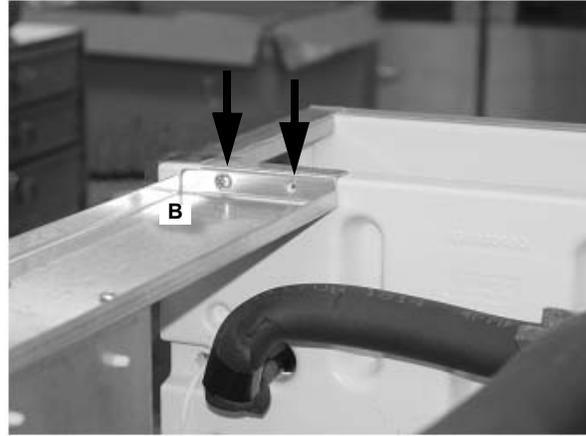

Figure 20.
13. Remove the 2 screws connecting the top support brace (B) to the evaporator bulkhead (Figure 20).